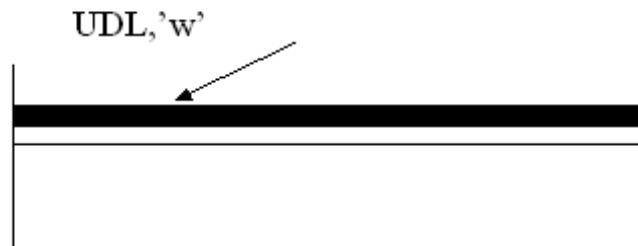

Figure 4
4. A cantilever beam AB is subjected to uniformly distributed load w per unit length. The length of cantilever is L and its flexural rigidity EI is constant as shown in the (figure4). Determine the deflection at a distance L/2 from the free end using Castiglino's theorem. [16]